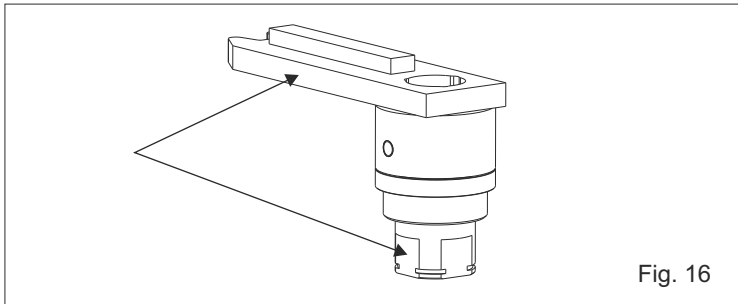

Fig. 16
**N.B.:** It is advisable to weld the crank with the crank shaft after having also installed the Compact, to use the whole available run and the point of beginning of the desired slowdown (version with hydraulic slowdown). Before welding, make sure that one of the level of the crank shaft corresponds with a side of the crank (see fig.16 and 17) to guarantee the maximum angle with the mechanical stops Kit.